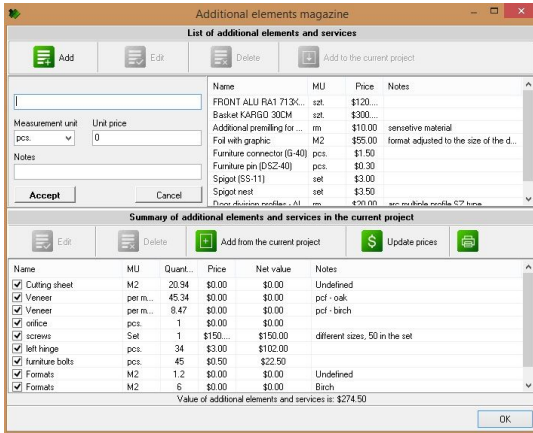

Fig. 66 – adding a new element to the magazine
Users have full freedom in defining additional elements. You can list here all necessary action and operations, materials, tools or accessories, which are needed to realize the project. After clicking the 'Add' button you can define the name of an element or service, their quantity, the measurement unit (MU) (by selecting it from a list or entering the text manually – Figures 66 and 67) and the unit price. Optionally you can also add notes.
- **Add** - opens a new panel in the same window, in which data of a new element can be entered (Fig. 66). Then the newly added position can be moved to the current project by dragging-and-dropping or by clicking the **'Add to current project'** button. If the price and quantity were specified, the program will calculate the total cost;
- **Add to the current project** - after indicating an item to move and this selecting option, you will see a dialog box called **'Number of positions added to the project'**, in which you can specify, how many items should be taken from the magazine and added to the current project (Fig. 68). You can see elements moved to the project on the above illustration (Fig. 66).